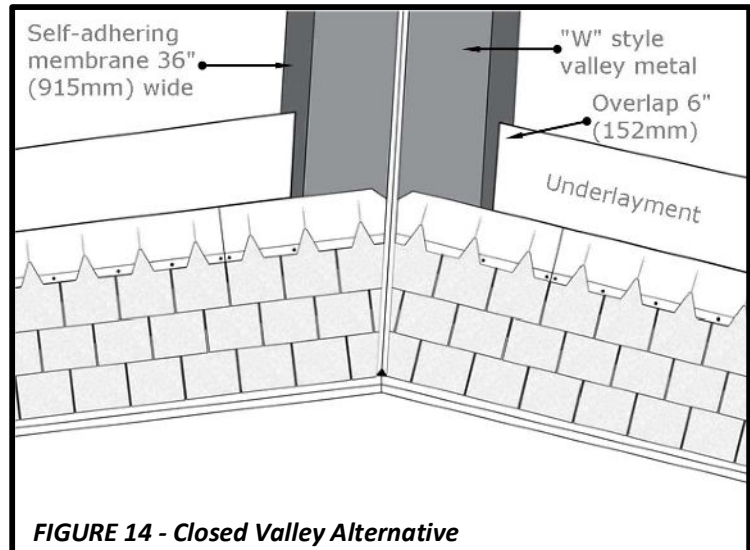

FIGURE 14 - Closed Valley Alternative
- When trimming the shingles at the valley, trim the shingles flush with the “W” fold. See **Figure 14**.